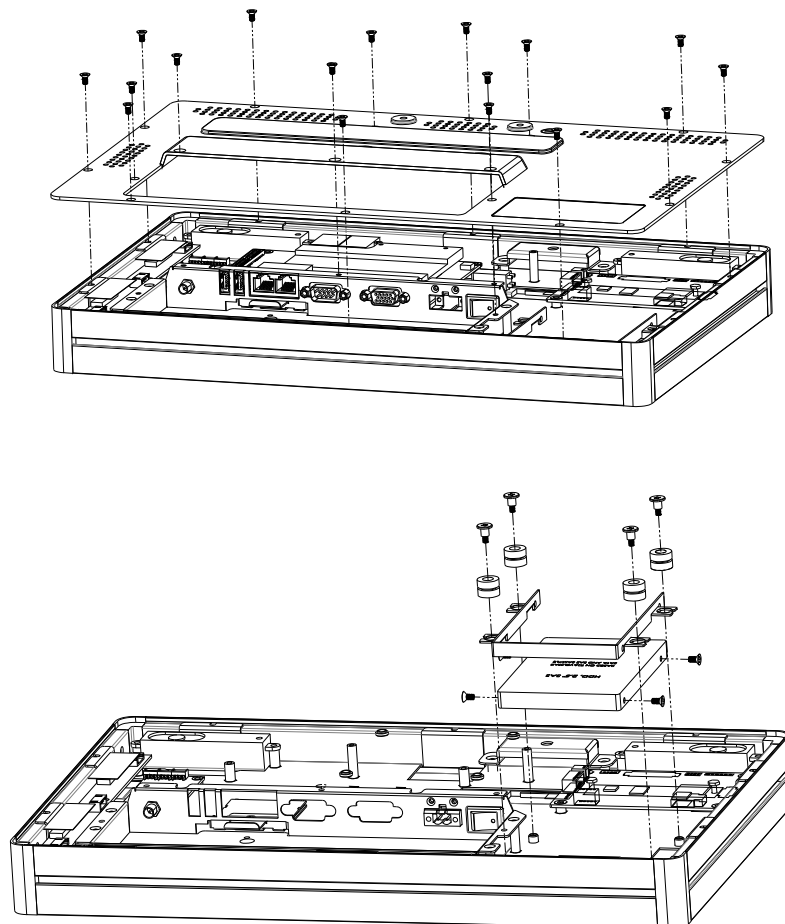

Figure 3.1 Installing primary 2.5" HDD
2. Place the HDD in the metal bracket, and tighten the screws (see Figure 3.1).